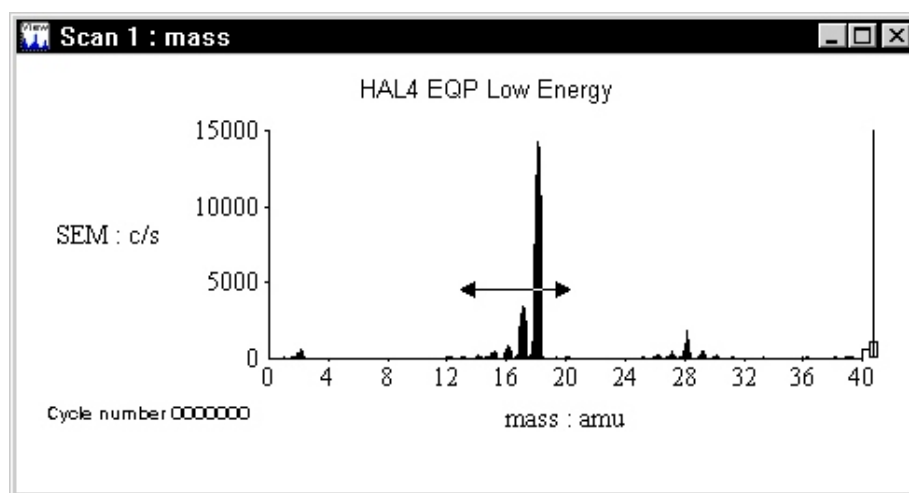

Figure 7.33 One-dimensional expanded view
1. Hold down the left mouse button and move the mouse pointer only vertically or horizontally. An arrowed line is drawn out, see Figure 7.33.